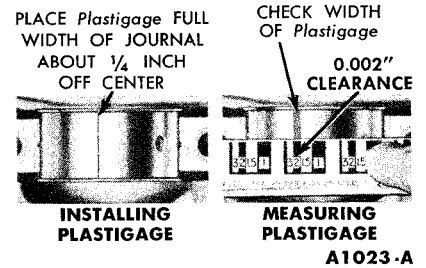

FIG. 77—Installing and Measuring Plastigage—Engine Removed
10. Check the clearance of each main bearing. Place a piece of Plastigage on the crankshaft journal the full width of the journal and about 1/4 inch off center (Fig. 77). Follow steps 11 through 13 under "Main Bearing Replacement" (page 1-24).